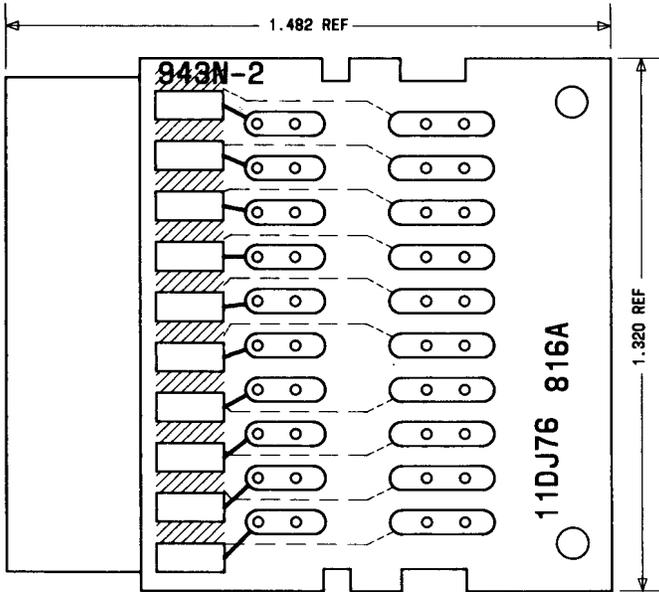

Fig. 7—816A Tester Tool
2.15 **816A:** The 816A tester tool (Fig. 7) is used as a grid removal maintenance tool when removing grids on J1A080A and J1A081A remreed frames.